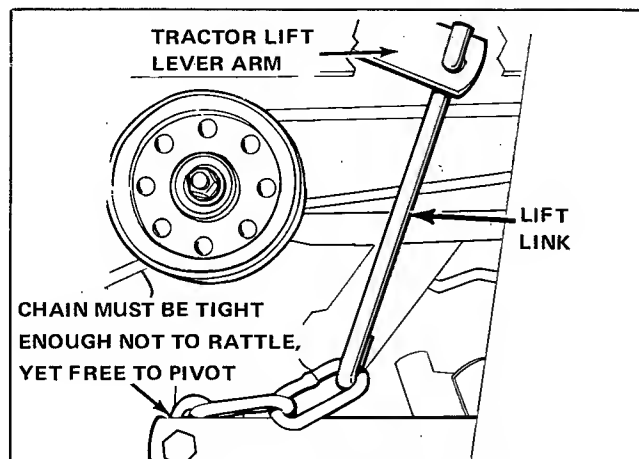

Figure 2. Installing Lift Link
4. Slip the lift link into the lift lever arm and attach the lift chain to the lift link (figure 2).